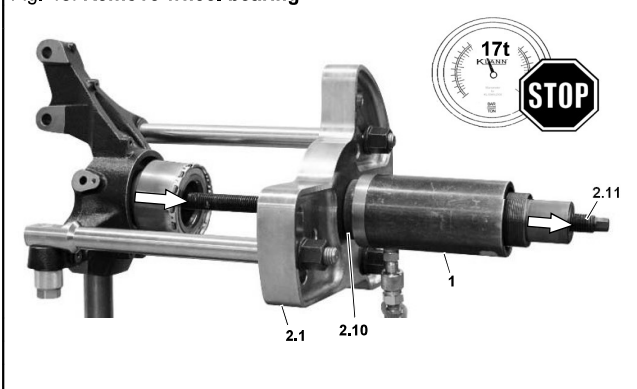

Fig. 41: Clean wheel bearing bore.
6. Remove residues of safety ring and thoroughly clean the wheel bearing bore in the steering knuckle. (Fig. 41)